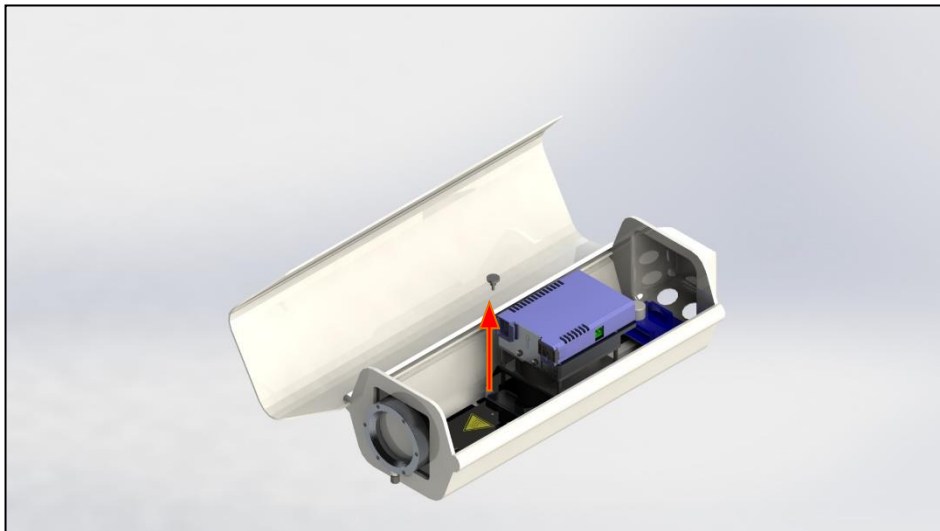

Figure 10: Loosen the knurled screw from mounting plate
Step 1: Loosen the knurled screw from the mounting plate (**Figure 10**).